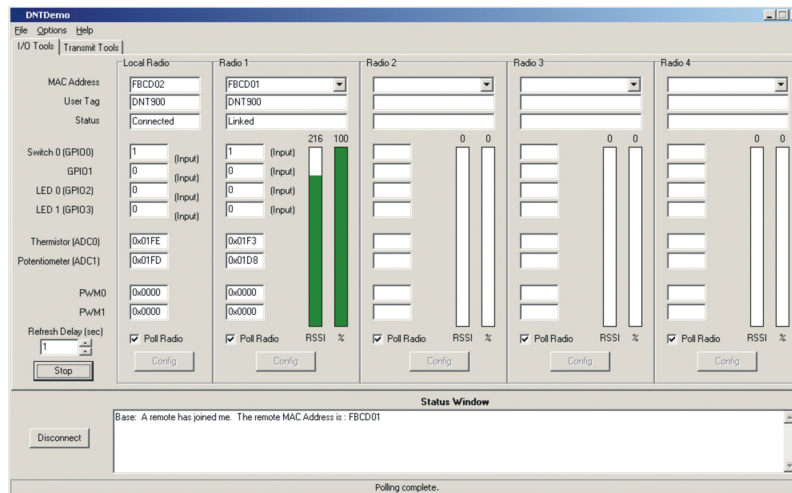

Figure 8
10. The Demo will display updated data on the Remote in the Radio 1 column, including bar graphs of RSSI (signal strength) and percent packet success rate, as shown in Figure 8. Adjusting the pot on the Remote can be observed on the Potentiometer (ADC1) row. See the DNT900 Integration Guide for information on other DNT900 utility programs.